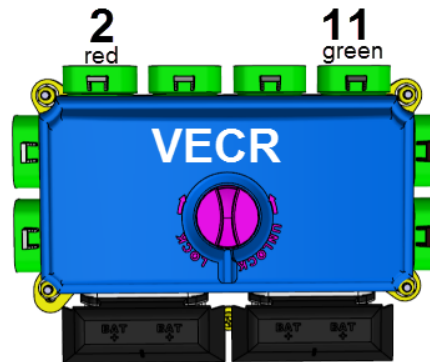

Figure 1: VECR
- 1.1 Inside rear electrical compartment (rear junction box), locate VECR module (Figure 1).